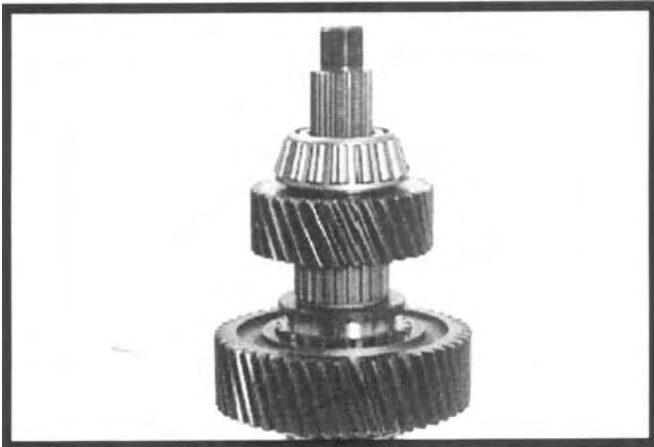

Figure 6.7
17. Heat and install the front bearing cone assembly against the gear. See Figure 6.7.